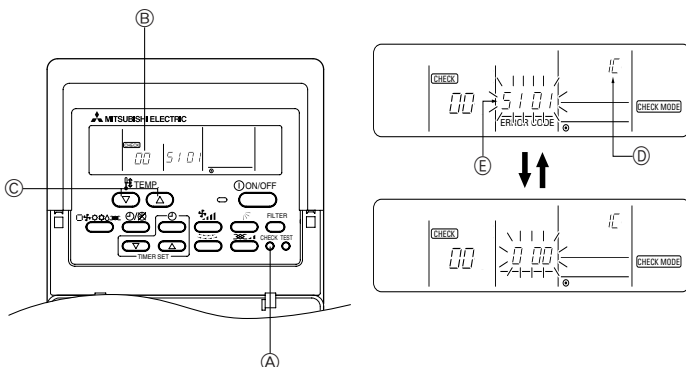

Fig. 10-2
10.3.1. Wired remote controller (Fig. 10-2)
- ① Turn on the power.
- ② Press the [CHECK] button twice.
- ③ Set refrigerant address with [TEMP] button if system control is used.
- ④ Press the [ON/OFF] button to stop the self-check.